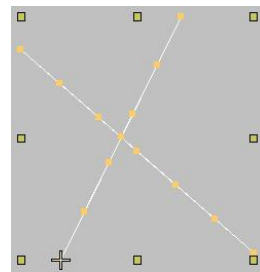

Figure 2
2. Left click on "Crossover of Needle Traces" (as shown in Figure 2).